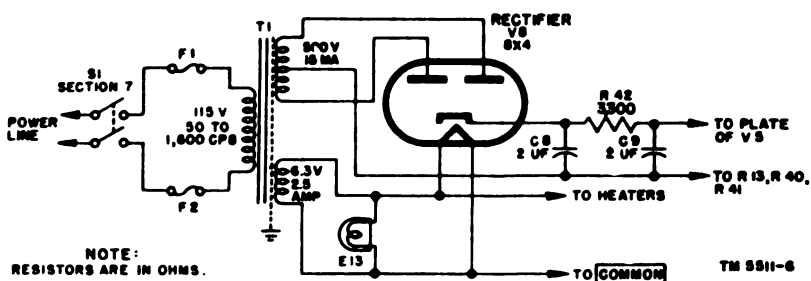

Figure 6. Power supply, simplified schematic diagram.
g. **TERMINALS.** (1) The OHMS and COMMON terminals are used in the measurement of resistance.
(2) The CASE terminal is a connection to the cover and chassis of the multimeter. It permits grounding the instrument so that the influence of external fields is negligible.
a. Figure 6 is a simplified schematic diagram of the power supply. It includes a conventional full-wave rectifier using a 6X4 tube (V8) to supply 310 volts at 12 ma for the amplifier plate supply. The power supply is designed to operate over a frequency range of 50 to 1,600 cps and takes approximately 20 va at 115 volts.